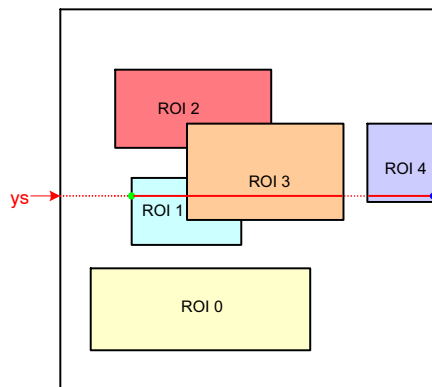

Figure 28. Scanning the Image Array with Five Windows
Figure 28 illustrates a practical example of a configuration with five windows. The current position of the read pointer (ys) is indicated by a red line crossing the image array. For this position of the read pointer, three windows need to be read out. The initial start position for the x-kernel pointer is the x-start configuration of ROI1. Kernels are scanned up to the ROI3 x-end position. From there, the x-pointer jumps to the next window, which is ROI4 in this illustration. When reaching ROI4's x-end position, the read pointer is incremented to the next line and xs is reinitialized to the starting position of ROI1.
- The read pointer is not necessarily incremented by one, but depending on the configuration, it can jump in y-direction. In Figure 28, this is the case when reaching the end of ROI0 where the read pointer jumps to the y-start position of ROI1.